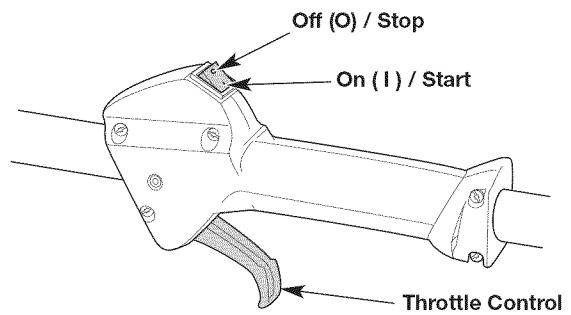

Fig. 7
- NOTE:** There is no need to turn the unit on. The On/Off switch is in the ON (I) position at all times (Fig. 7).
6. Squeeze the throttle control (Fig. 7) and pull the starter rope with a controlled and steady motion **5 times** (Fig. 9).
2. Press and hold the On/Off switch in the OFF (O) position until the engine comes to a complete stop (Fig. 7).
7. Squeeze and hold the throttle control (Fig. 7). Run the Speed Start™ accessory for 2 seconds.